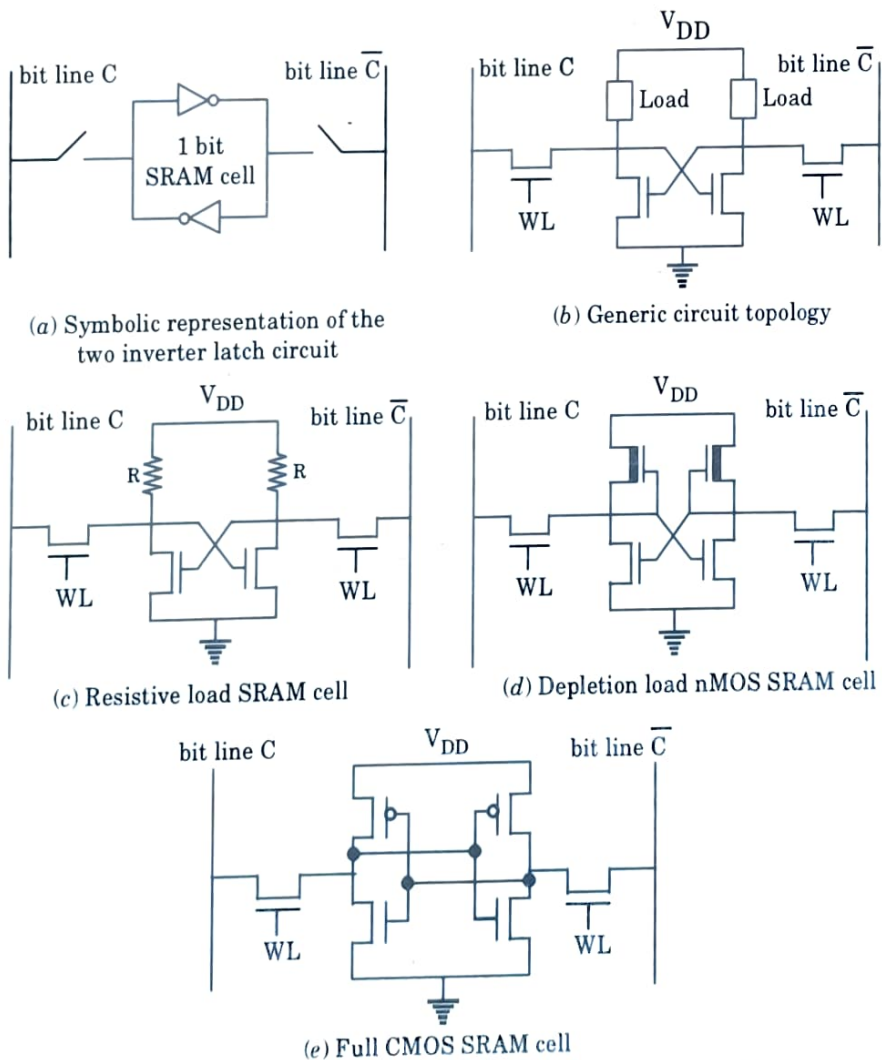

Fig. 4.3.1. Various configuration of the static RAM cell.
1. The various configuration of the static RAM cell is shown in Fig. 4.3.1.
2. Fig. 4.3.1(a) : Two complementary access switches consisting of nMOS pass transistor are implemented to connect the 1-bit SRAM cell to the complementary bit lines.
3. Fig. 4.3.1(b) : The generic structure of MOS static RAM cell, consisting of two cross coupled inverters and two access transistors.
5. In Fig. 4.3.1(c) : We use a resistive load inverters with undoped polysilicon resistors.
8. Fig. 4.3.1(d) : The six transistor depletion load nMOS SRAM cell can be easily implemented with one polysilicon and one metal layer, and the cell size tends to be relatively small, especially with the use of buried metal diffusion contacts.
10. Fig. 4.3.1(e) : The full CMOS SRAM cell are currently most popular due to the lowest static power dissipation among the various circuit configurations and compatibility with current logic process.